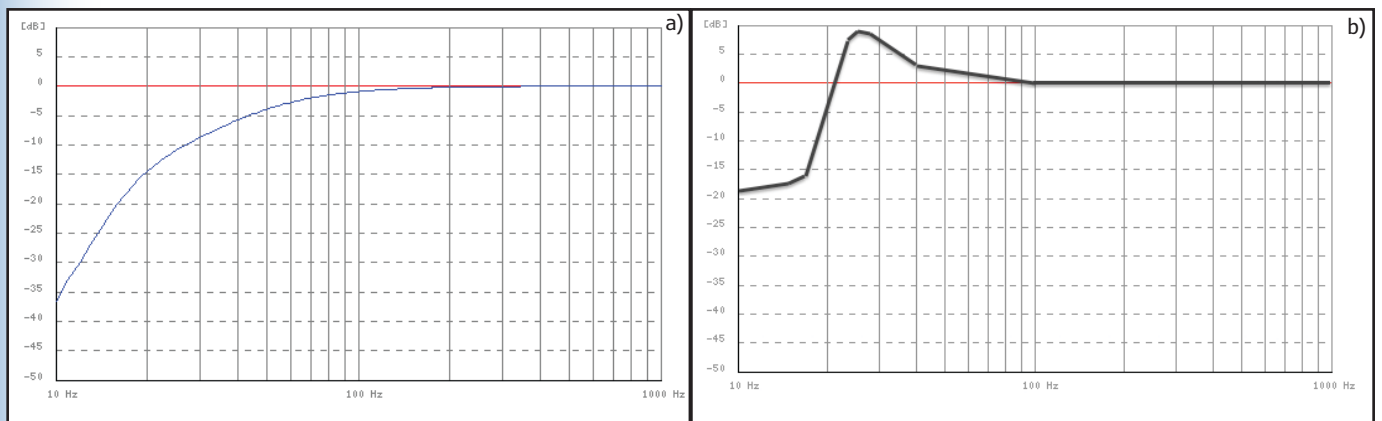

Figure 11: The speaker when tuned to 25 Hz (a), and the corresponding filter (b).
- Tune the passive radiator to a much lower frequency, then boost the bass at f_b with DSP (see **Figure 11**). This extends bass well below what is normally considered possible in a small box. This is far more interesting than the first option. Cone excursion is normally the #1 limiting factor in bass output. Since the passive radiator amplifies cone excursion by 10 dB at f_b , boosting the range near f_b with EQ produces surprising results.